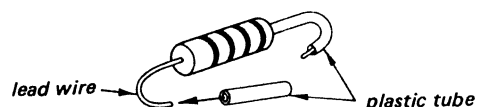

Fig. 1-5-2.
2. Lead wires of the replacement resistor should be covered with plastic tubes as shown in Fig. 1-5-2.